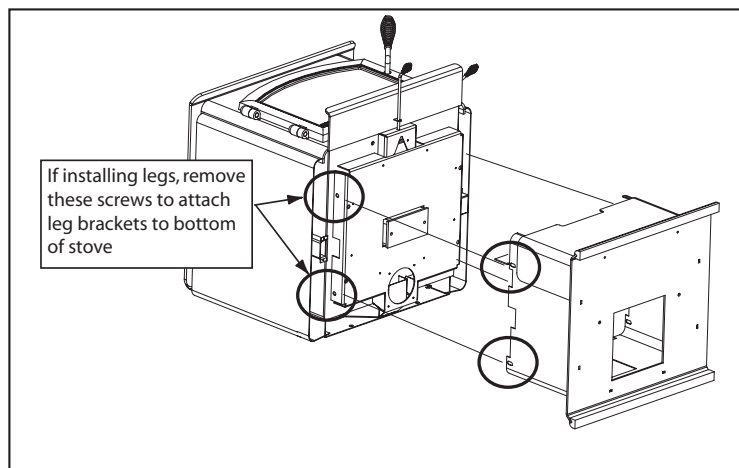

Figure 17A
5. Secure mounting brackets to the bottom of the stove with 1/4"-20 Phillips screws. These screws are located on the outer skin at the bottom rear of the stove. See Figure 17A.